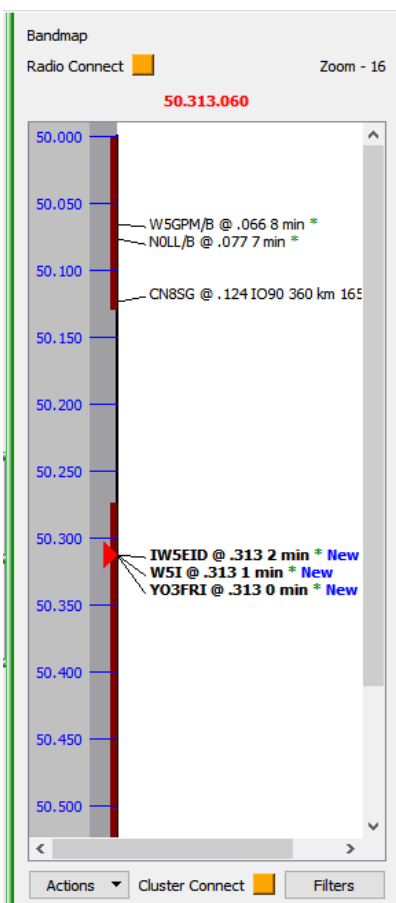

Figure 138 – Bandmap display
An example display is shown in Figure 138. **Beware:** if you don’t see anything, check your filters
To vary the zoom in order to focus on areas of interest use the scroll wheel¹³⁰ while hovering over the grey frequency bar. The current zoom setting (- 16, the least zoom, in Figure 138) is displayed in the top right of the panel. The scroll bar on the right can be used to move within the extended display thus created, or the scroll wheel while hovering over the white portion of the panel¹³¹.
- The current rig frequency is indicated by the black ‘play’ symbol (‘dial cursor’ on 144.290 in Figure 138). If this symbol turns red it indicates that it is a frequency/mode pairing that does not match the bandplan.
- If the dial cursor is not viewable, click the dial frequency at the top of the panel (144.290 at top of Figure 138) to bring that frequency back into the viewport.